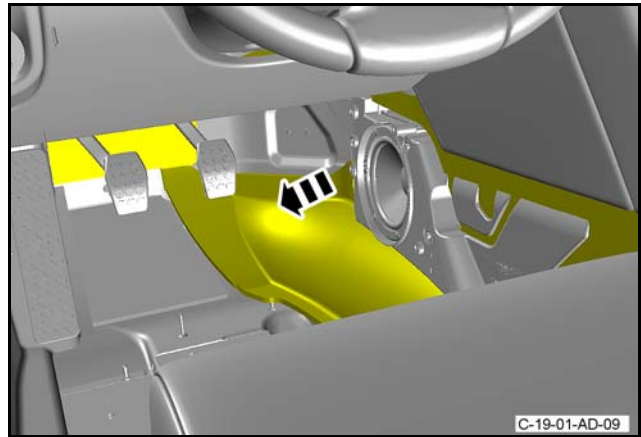

Figure 7
- 22. Move the side tunnel carpet away from the front footwell speaker (refer to Figure 7).